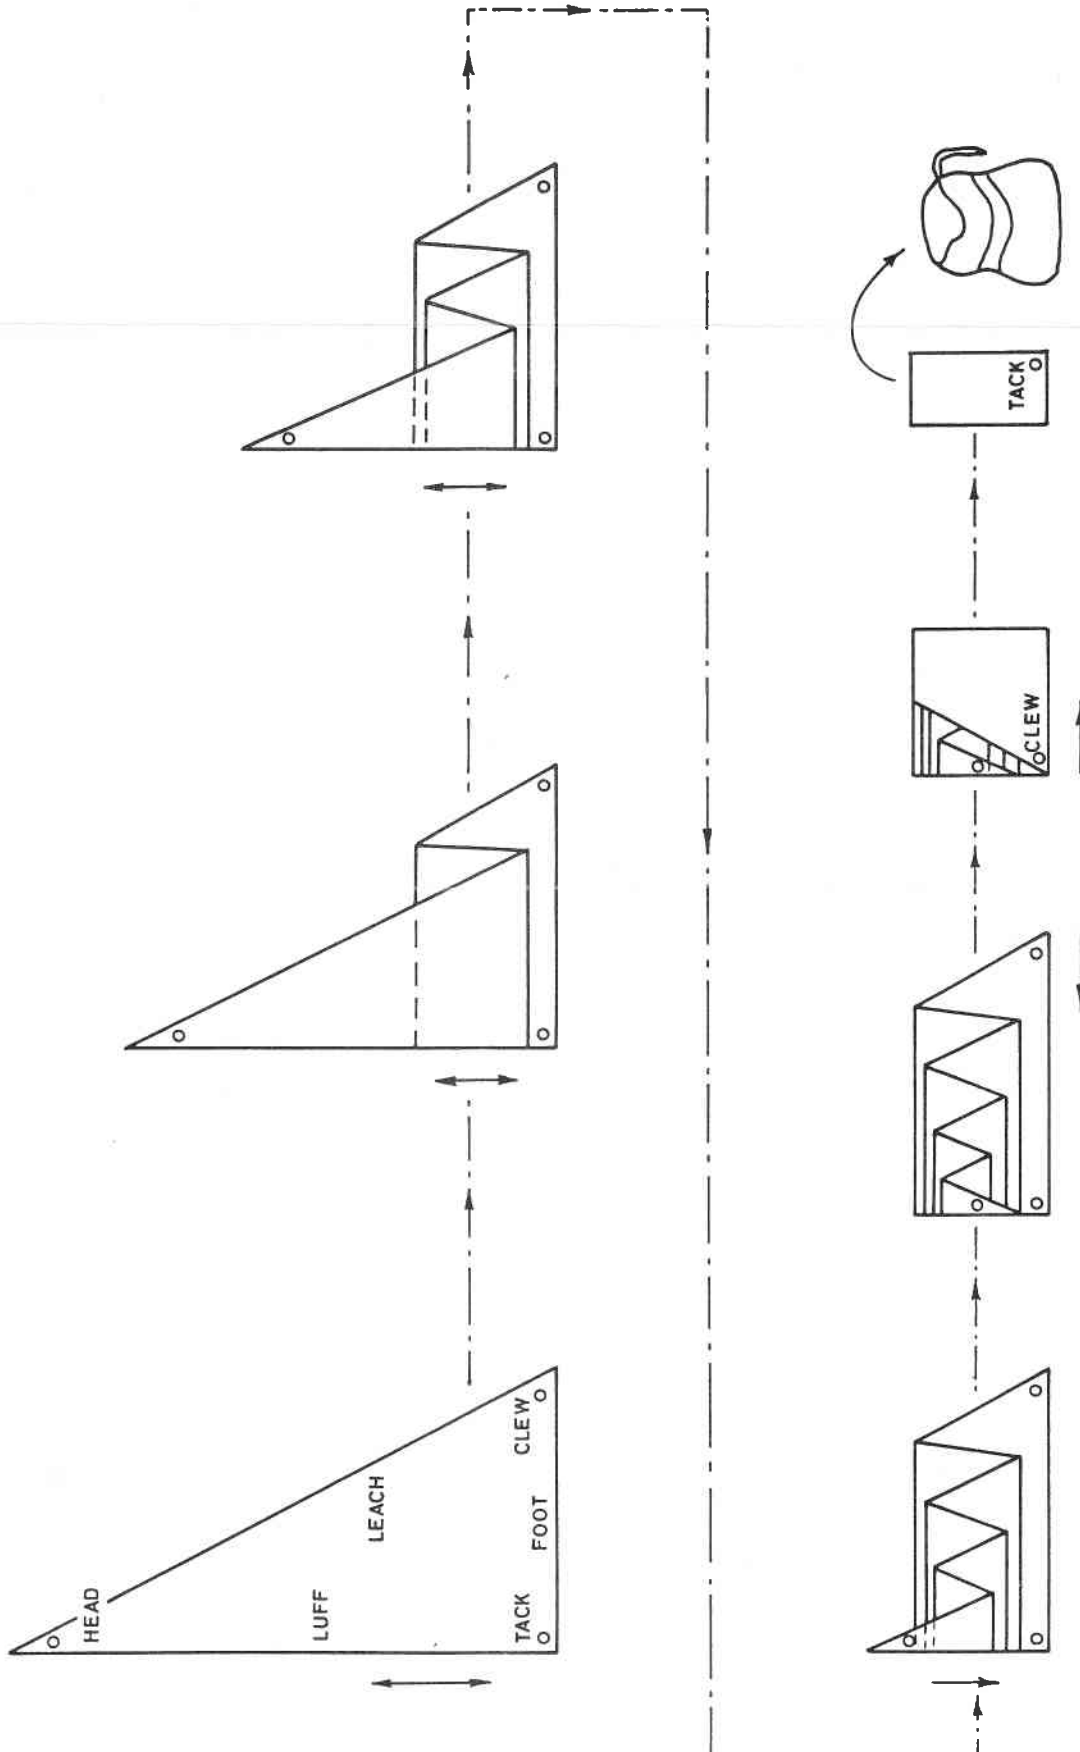

Fig.15-Folding a Headsail
- 2 The sail should then be folded following the steps illustrated in Fig. 15.